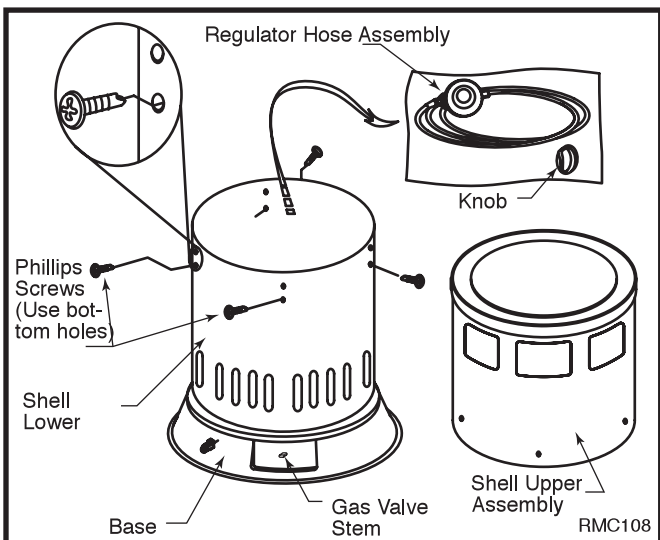

Fig. 3 Remove regulator hose assembly, place four screws in bottom holes at top of shell lower.
5. Screw four phillips head screws in place in bottom hole at top of shell lower. LPC80/200 (Fig. 3)